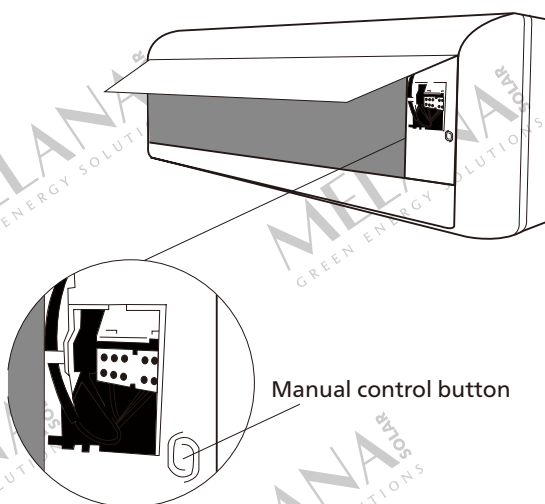

Fig. 10.1
2. The **MANUAL CONTROL** button is located on the right-hand side of the unit. Press it twice to select the COOL function. See **Fig 10.1**